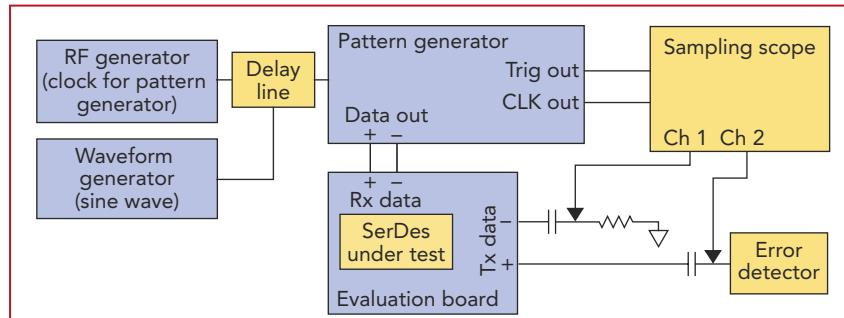

FIGURE 3. David Andres of Marvell Semiconductor uses this test setup to test SerDes receivers for BER in the presence of jitter.
Figure 3 shows the current iteration of a test system that Andres uses to evaluate SerDes receivers. The DUT resides on an evaluation board. An RF signal generator produces a 10-GHz signal that becomes the system clock. A waveform generator supplies the frequency-modulation (FM) signal that represents S_j . An RF delay line modulates the 10-GHz signal with the S_j signal.
The test setup in **Figure 4** shows that Wu uses a system similar to Andres, but all injected jitter is sinusoidal. The RF synthesizer generates a clock signal, and the waveform generator produces the modulation sinusoid signal. A microwave analyzer measures the output clock from a bit analyzer and controls the waveform generator. Wu's test setup uses more test equipment than Andres' setup (Figure 3) because Wu performs temperature testing and varies signal amplitude.